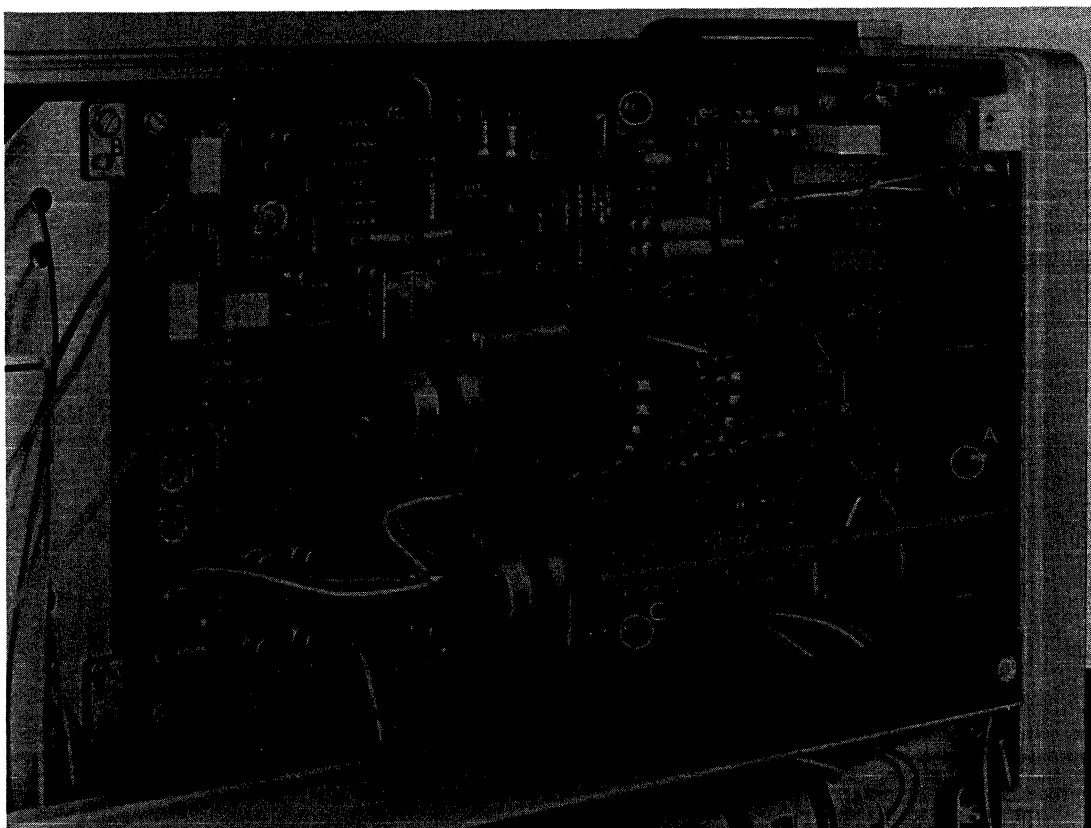

Fig. 3.16. Dismantling
- Remove two screws A (Fig. 3.16.)
- Remove two screws B (Fig. 3.16.)
- Remove two screws and nuts C (Fig. 3.16.)